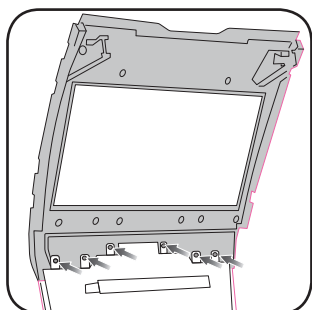

Fig. 3.1
1. Place the EDG3 display trim onto the factory climate bezel. Secure it with the six included Phillips screws. (Fig. 3.1)